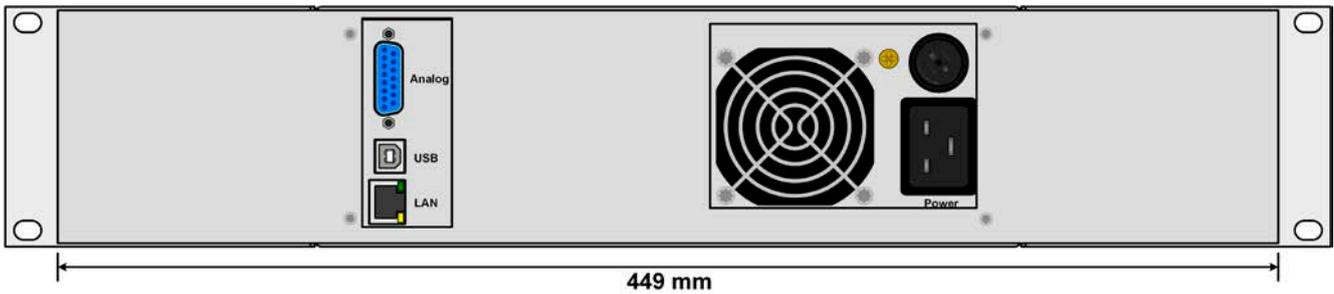

Figure 11 - Rear view after complete assembly of the mounting frame (1000 W / 1500 W models shown)
5. Place the rear part of the mounting frame (4) on the hex spacers and fix it with 4 screws M3x6 and 4 lock washers M3 (5). Select the window which fits a PSI 9000 DT rear side layout (*Figure 11*).